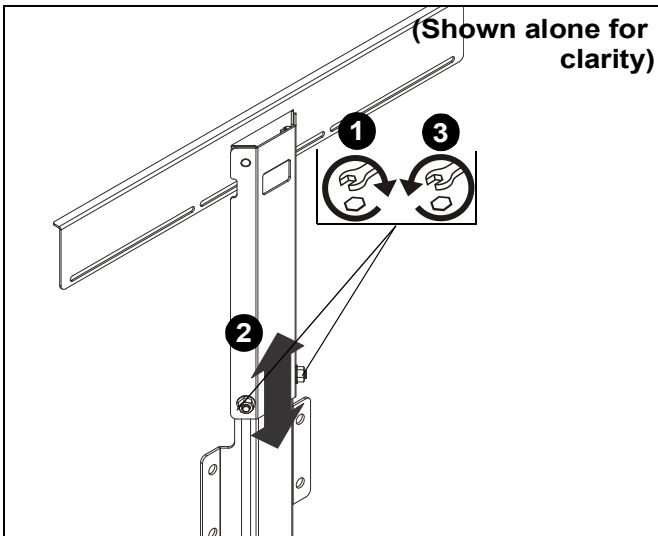

Figure 4
1. Loosen two hex nuts that attach two brackets of attachment plate (B) to each other. (See Figure 4)
2. Adjust shelf height as desired. (See Figure 4)
3. Tighten two hex nuts that were loosened in Step 1. (See Figure 4)